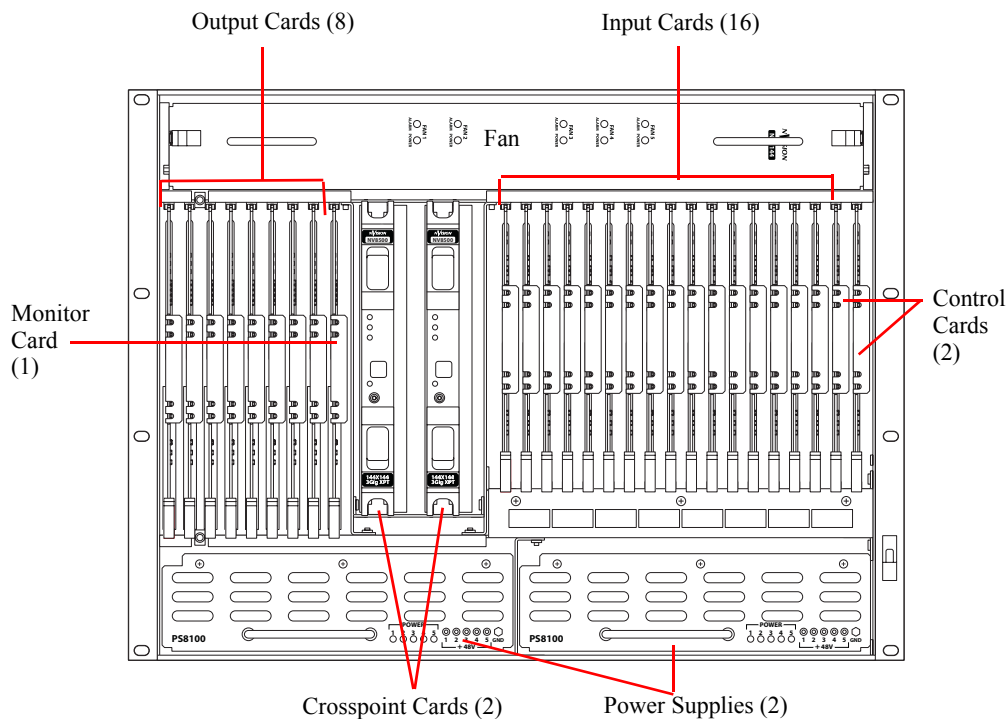

Figure 2-22. NV8144 with Door Removed (Front View)
- 1 Locate the monitor backplane located on the rear of the router frame, as shown in Figure 2-22.